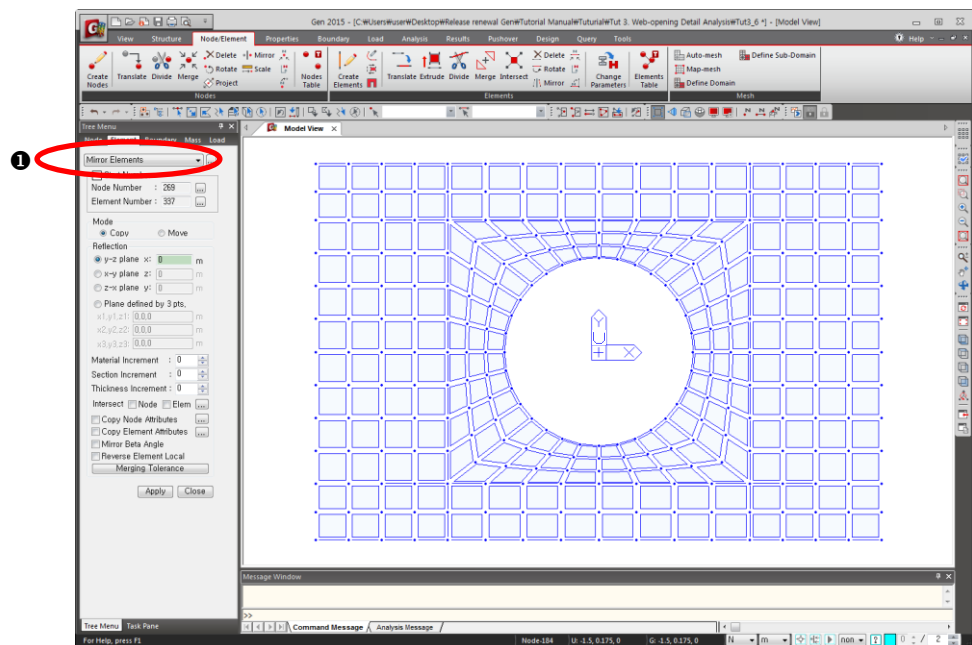

Figure 3.9 Complete Model of the Web
3. Select  **Mirror Elements** in the functions selection field (Fig.3.9-①).